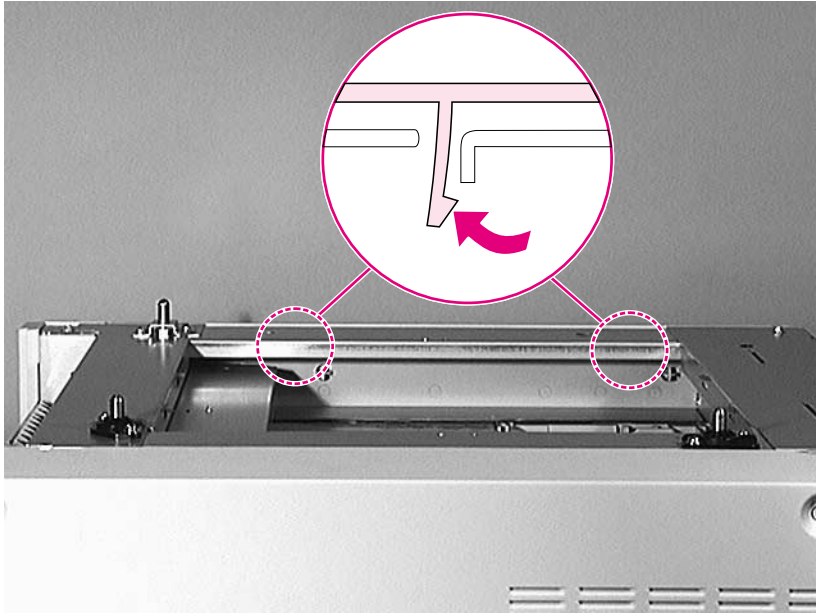

Figure 6-93 Front Top Cover (2 of 3)
- 4 From inside of the unit release the central tabs, as shown in figure 6-93.